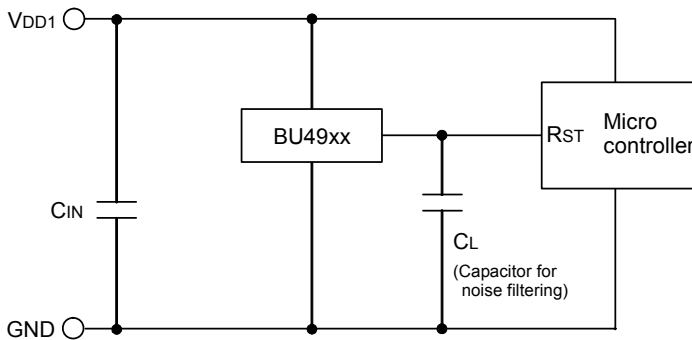

Fig.16 CMOS Output type
CASE2: The power supply of the microcontroller (VDD1) is same as the power supply of the reset detection (VDD1). Use CMOS output type (BU43xx series) or Open Drain Output Type (BU48xx series) attached a load resistance (RL) between the output and VDD1. (As shown Fig.16)